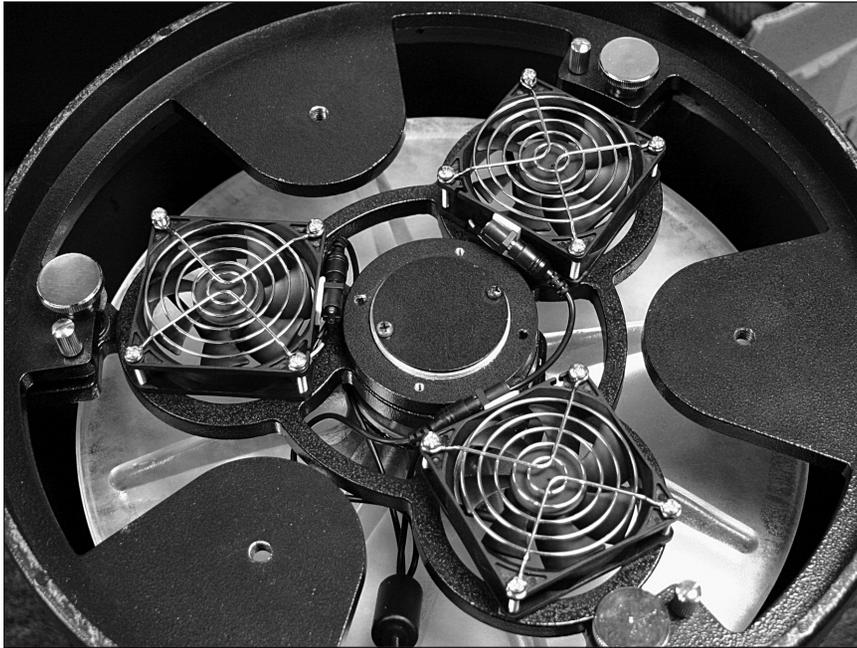

Figure 3. Fans are shown properly installed, with the power cable running under the mirror support cell to keep it out of the way.
5. Plug one of the three male ends of the power cable splitter into the jack on each fan. We recommend running the power cable splitter under the mirror cell structure then bringing the cable ends back out and into the fan jacks, to keep the cables out of the way as much as possible (**Figure 3**).